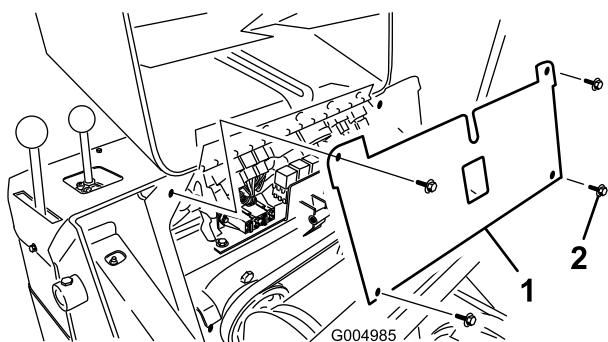

**Figure 41**
3. Pull the hairpin cotter from the bottom end of the hood prop-rod and slide the prop rod out of the retaining brackets and the prop-rod tab (Figure 41).
7. Install the prop-rod into the retaining brackets and prop-rod tab and secure it with the hairpin cotter (Figure 41).